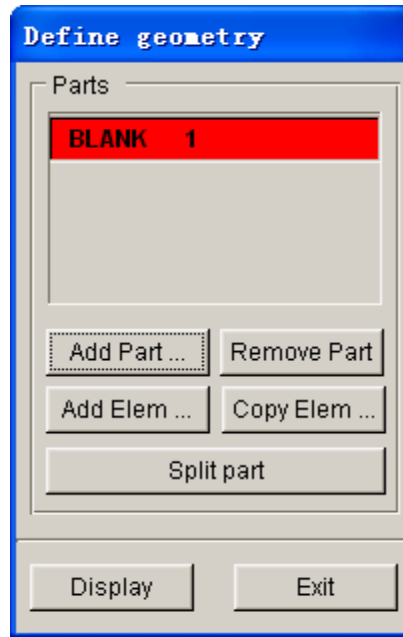

Figure 2.13 Blank geometry list
5. After selecting the part, you can click **OK** button to return to the DEFINE GEOMETRY dialog box. As illustrated in Figure 2.13, the **BLANK** part has been added to the list of blank.